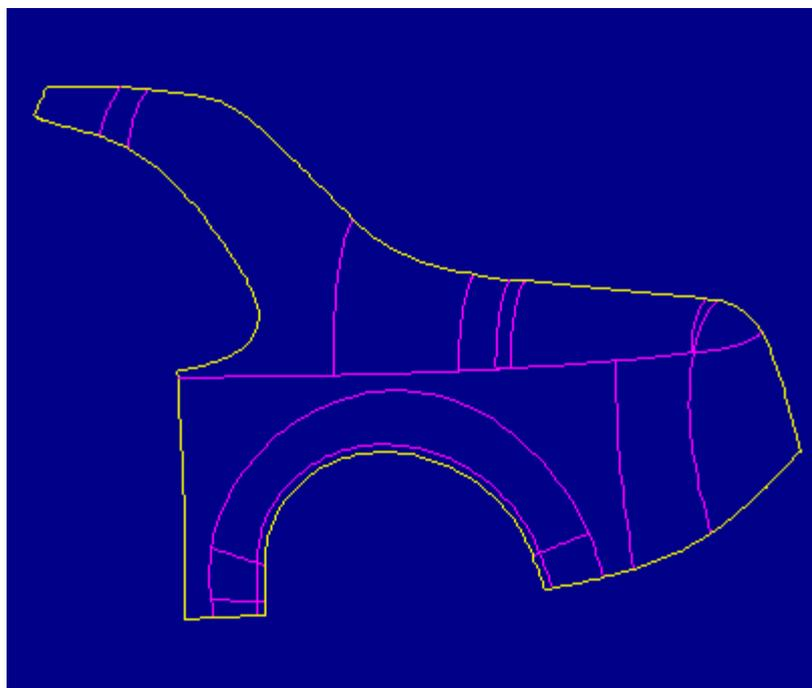
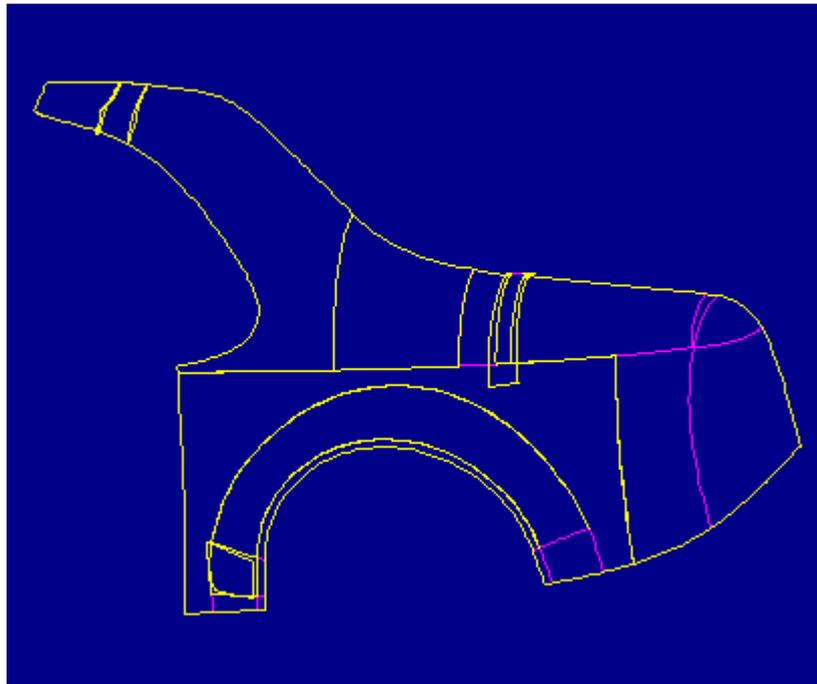

Figure 1
Figure 3
1. The goal of this process is to obtain the completed surface quilt shown in Figures 1 and 2 from the imported IGES data shown in Figure 3.